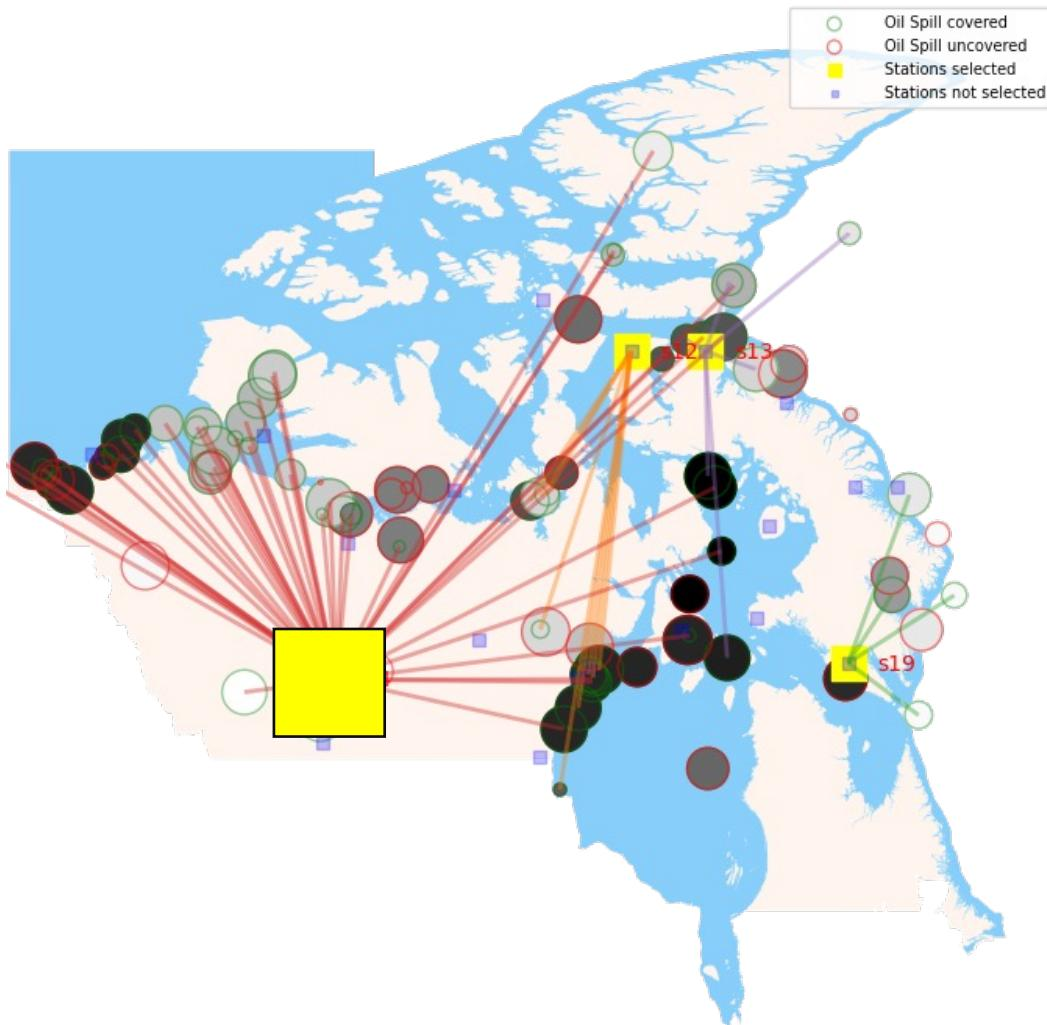

Fig 9. Network Diagram of Facility Location
- Shown in the Network Diagram in Fig 9.